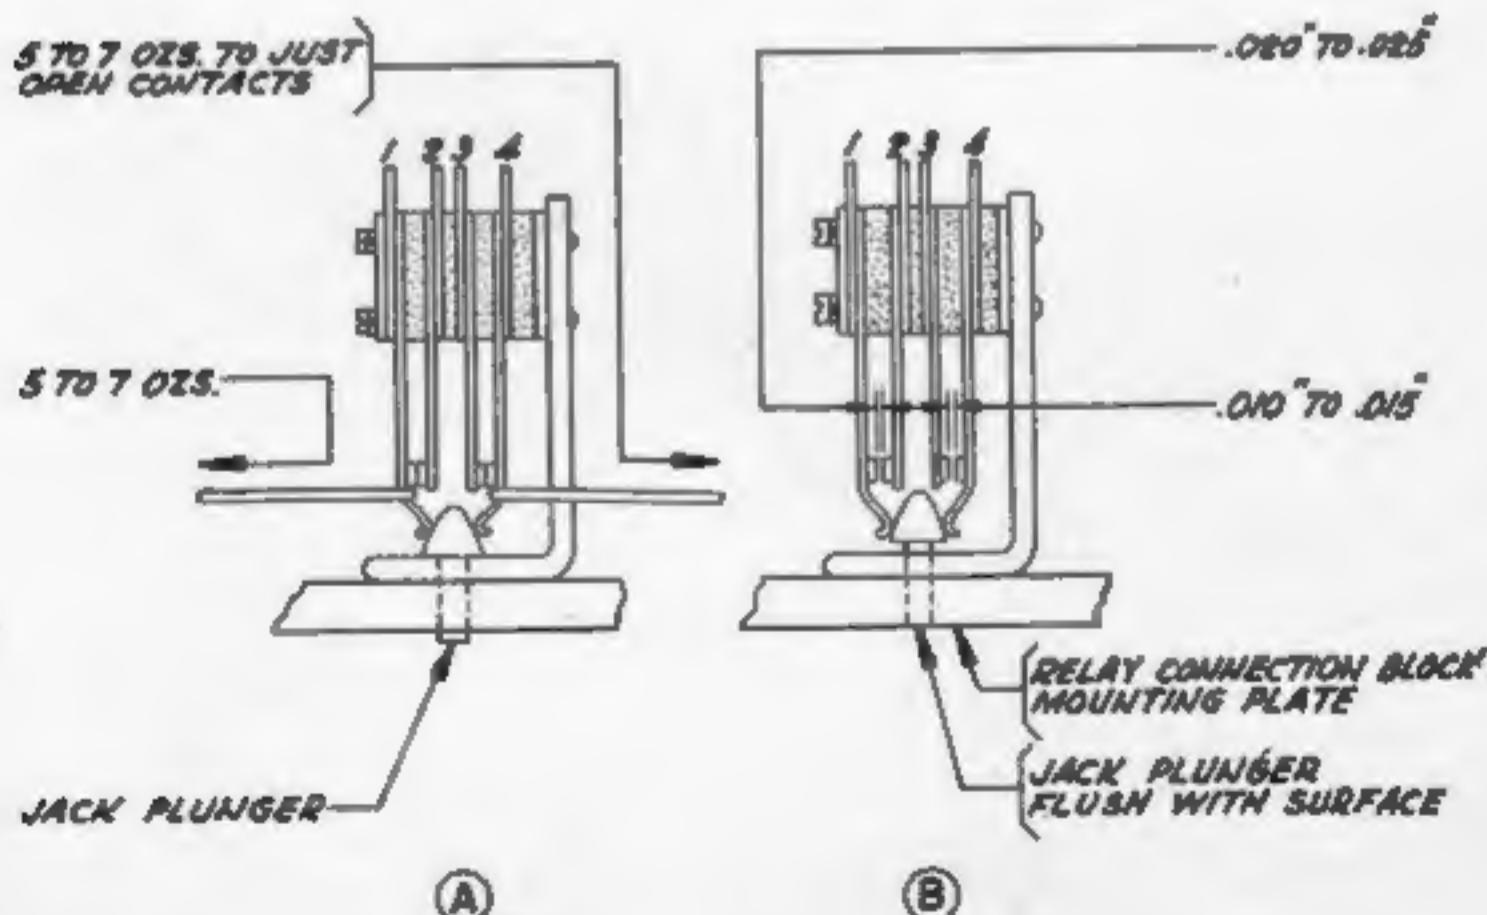

FIGURE 1
- A. When the jack plunger is held flush with the relay connection block mounting plate, there should be a gap of .010" to .015" between the contact points of No. 3 and No. 4 contact springs. See Figure 1-B.
- B. When the jack plunger is held flush with the relay connection block mounting plate there should be .020" to .025" clearance between the contact points of No. 1 and No. 2 contact springs. See Figure 1-B.
When an 8 oz. scale is hooked to contact springs No. 1 or No. 4 at right angles to the springs it should require a pull of 5 to 7 ozs. to separate the contact points of contact springs No. 1 and 2 or of contact springs No. 3 and 4 respectively. See Figure 1-A.